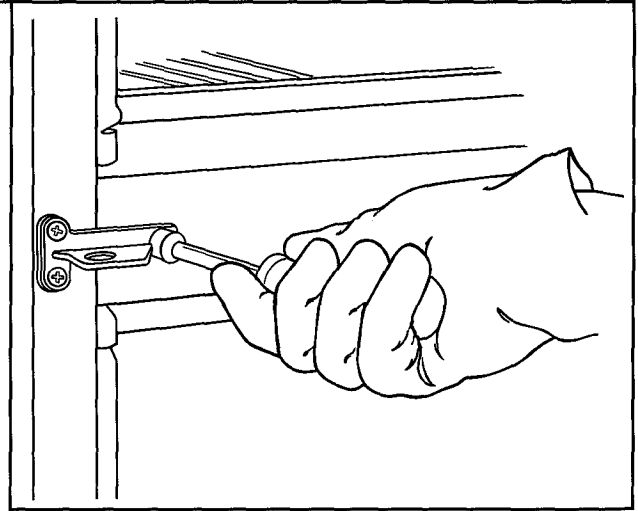

Figure 41
- f. Re-tighten hex head screw to secure bracket. See Figure 41.